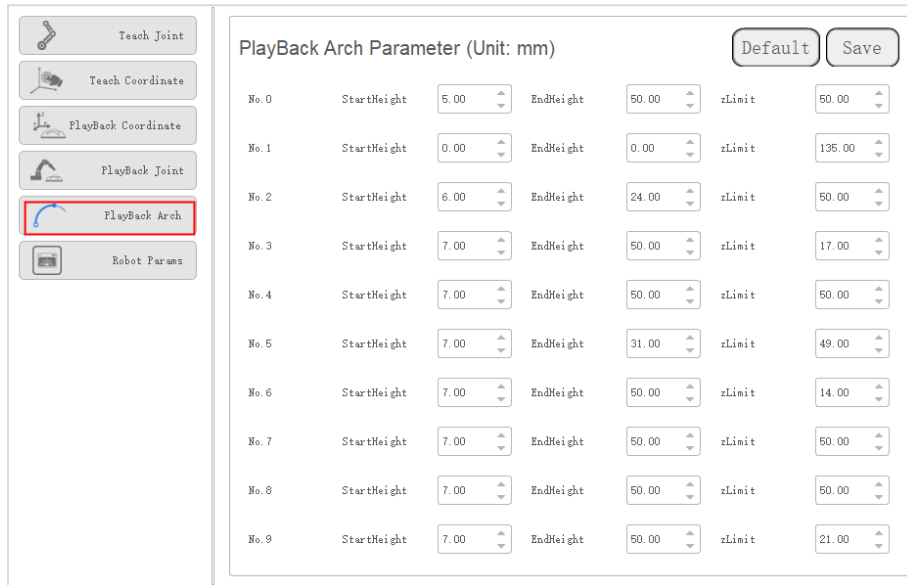

Figure 3.41 Jump parameters
- Playback Arch Parameter: If the motion mode is **Jump** when running robot programs, you need to set **StartHeight**, **EndHeight**, and **zLimit**. You can set 10 sets of Jump parameters. Please set and select any set of parameters for calling Jump command during programming, as shown in Figure 3.41.